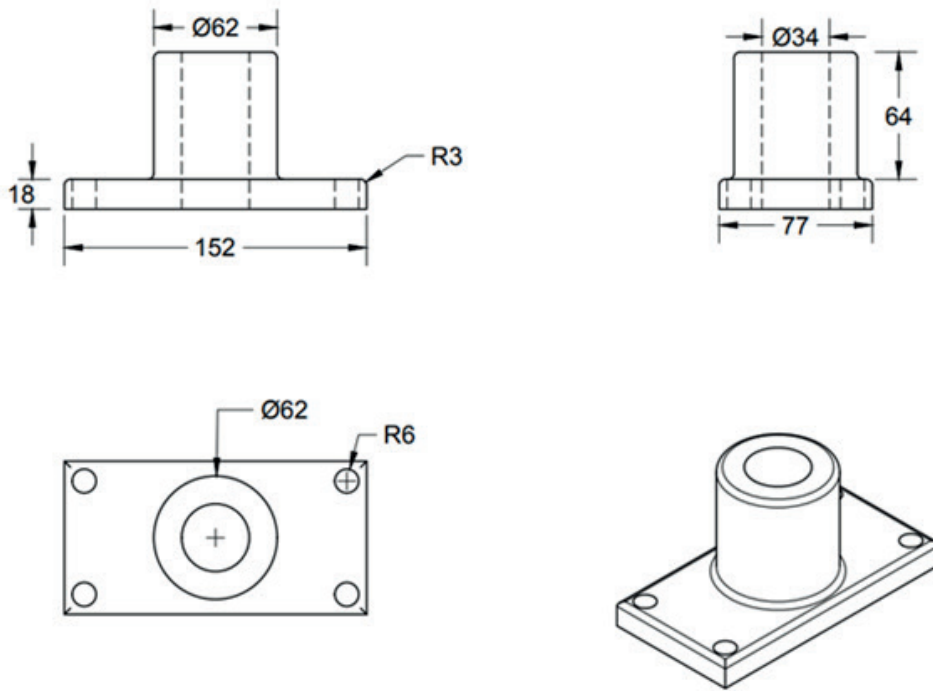

Fig.1
- 2) During the overhaul of a lathe machine in the school's metal workshop, a technician discovered that excessive noise during operation was caused by a damaged flanged bush. Since a replacement could not be found on the local market, the technician consulted the metalwork teacher and they agreed to produce a new part by casting it in the school workshop. The design specifications of the required part were obtained from the lathe machine (as illustrated in Fig. 1). You have been assigned to assist in preparing the design of a suitable pattern that will be used to cast the lathe flange and bush
Guided by the dimensions provided in Fig. 1, prepare part assembly technical drawings of a suitable pattern for casting the flanged bush.
After the environmental protection organisation's team inspected the doors (an example shown in figure 1) and confirmed the status of the doors, Mr. Mulindwa approached your workshop to develop a prototype hinge to serve as a model for mass production, aiming to produce hinges that will stand the test of time
Figure 1 illustrates damaged external doors on the old library.